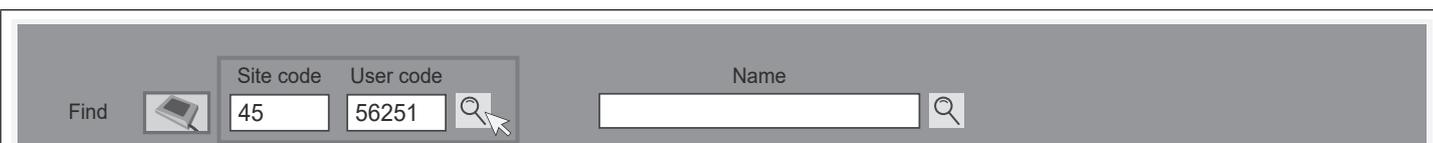

Fig. 65
- The **site code** and **user code** will automatically update with the fob/card information, see **Fig.65**.